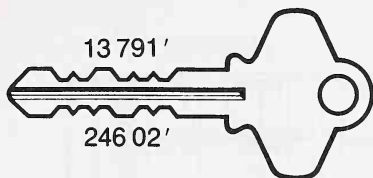

Fig. 10-25. A masterkey notched at 10 different code locations.
7. The masterkey which will operate these units is made by notching the key only at each location where a combination code number occurs. The rest of the key must be left unnotched. The masterkey for units selected from the list in Fig. 10-22 would be notched at combination code locations 1, 2, 3, 4, 6, 7, 9, 0, 1', 2' (Fig. 10-25).